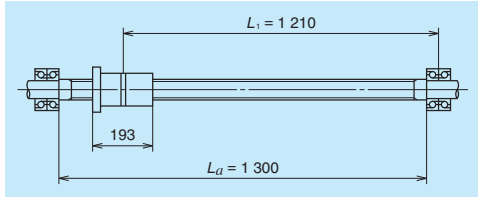

Fig. 17.4 Examination of buckling load
(1) Permissible axial load
Calculate the buckling load for conditions shown in Fig. 17.4 with P of 10 354 (N) and L_1 of 1 210 (mm).